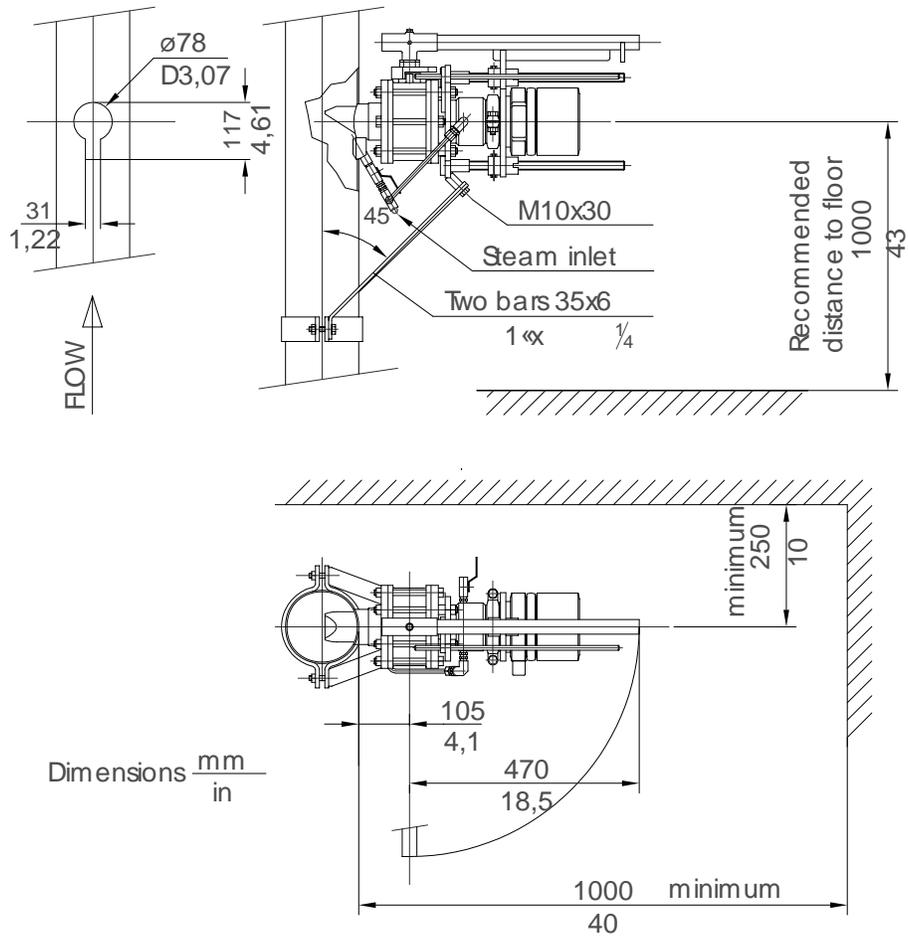

Figure 11.21 Mounting of Retractor HIMP-2.
- free distances according to Figure 11.21
1. Cut a keyhole shaped opening (Figure 11.21) and weld the Retractor HIMP-2 to the process line.
2. It is absolutely necessary to support the Retractor by two bars according to Figure 11.21.